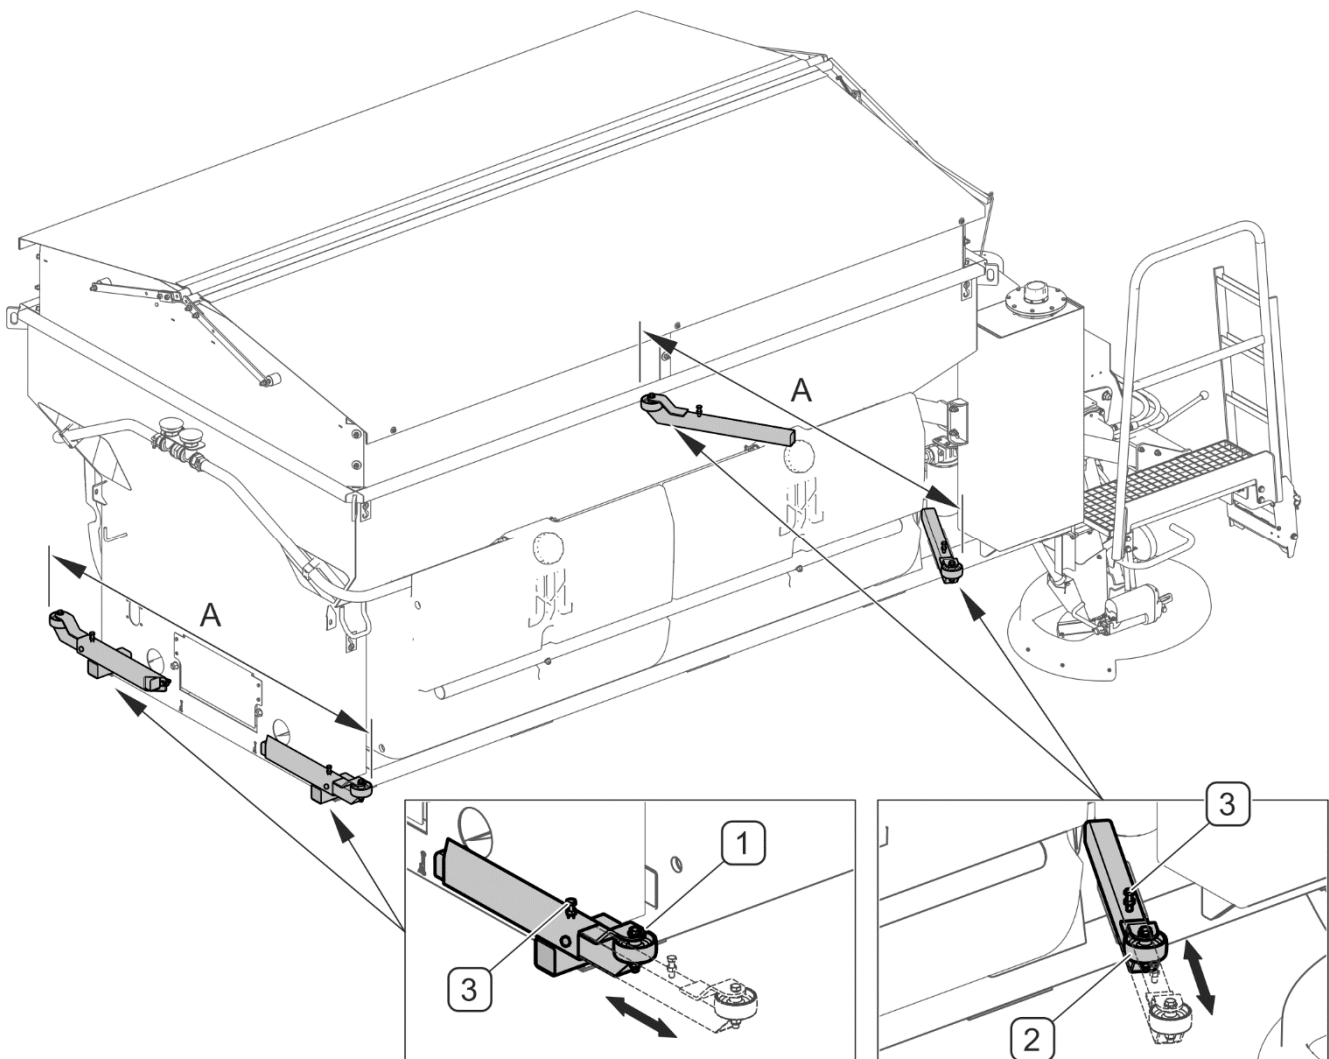

FIGURE 4.6 Guides
Position setting is facilitated by adjustable guides (1) and (2) with wheels (FIGURE 4.6) and limiters attached to the bottom of frame beam in the rear section of the machine. Set the front (1) and rear (2) guides in such a manner as to ensure that dimension (A) is slightly smaller than the internal width of the carrying vehicle's load platform (FIGURE 4.6).
Guides (FIGURE 4.6) are used in carrying vehicles which have sufficiently strong side walls of the load platform.
The use of guides (FIGURE 4.6) depends on the method of fixing the machine on the load platform (see 4.3.2 SECURING THE MACHINE TO THE CARRYING VEHICLE'S LOAD PLATFORM).